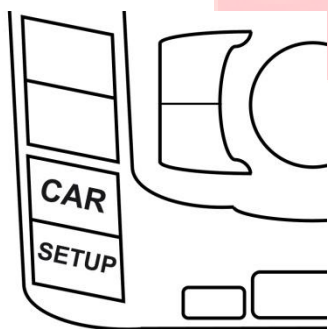
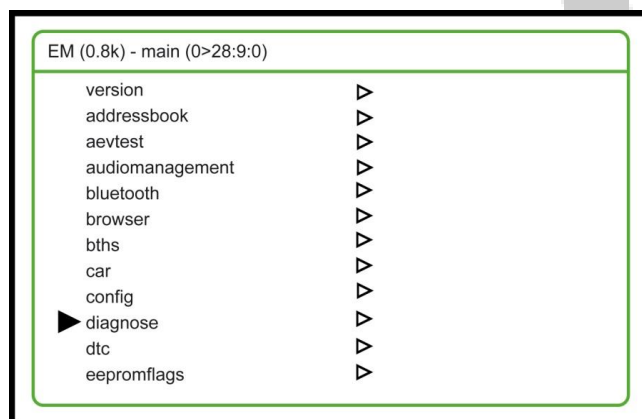

Fig. 3
Fig. 4
5. Press button combination (Fig. 3) **SETUP + CAR** and hold it together down until Figure 4 appears on the display.